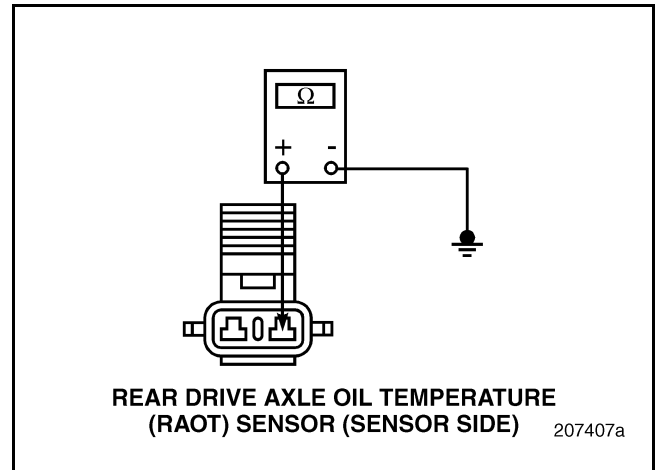

Figure 252
3. Check for continuity from either pin of the RAOT Sensor to a good ground (see Figure 252).